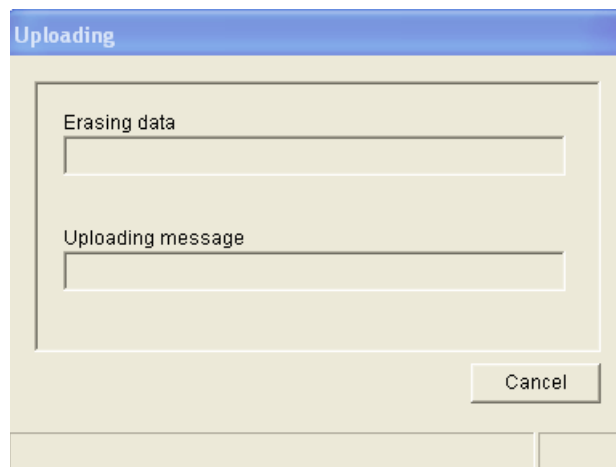

figure 8.16: Uploading data to the Plena Weekly Timer
- 2 Click Upload configuration. The following window will appear (see figure 8.16) showing that uploading is taking place. When uploading is complete, this window will close.